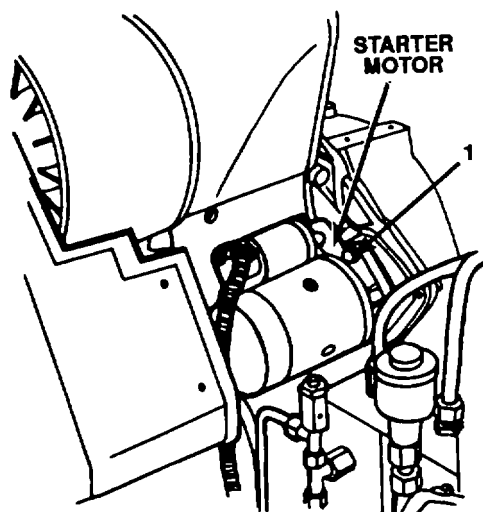

Figure 3-35. Starter Motor
- c Remove two bolts (1, figure 3-35) that secure starter motor to engine.